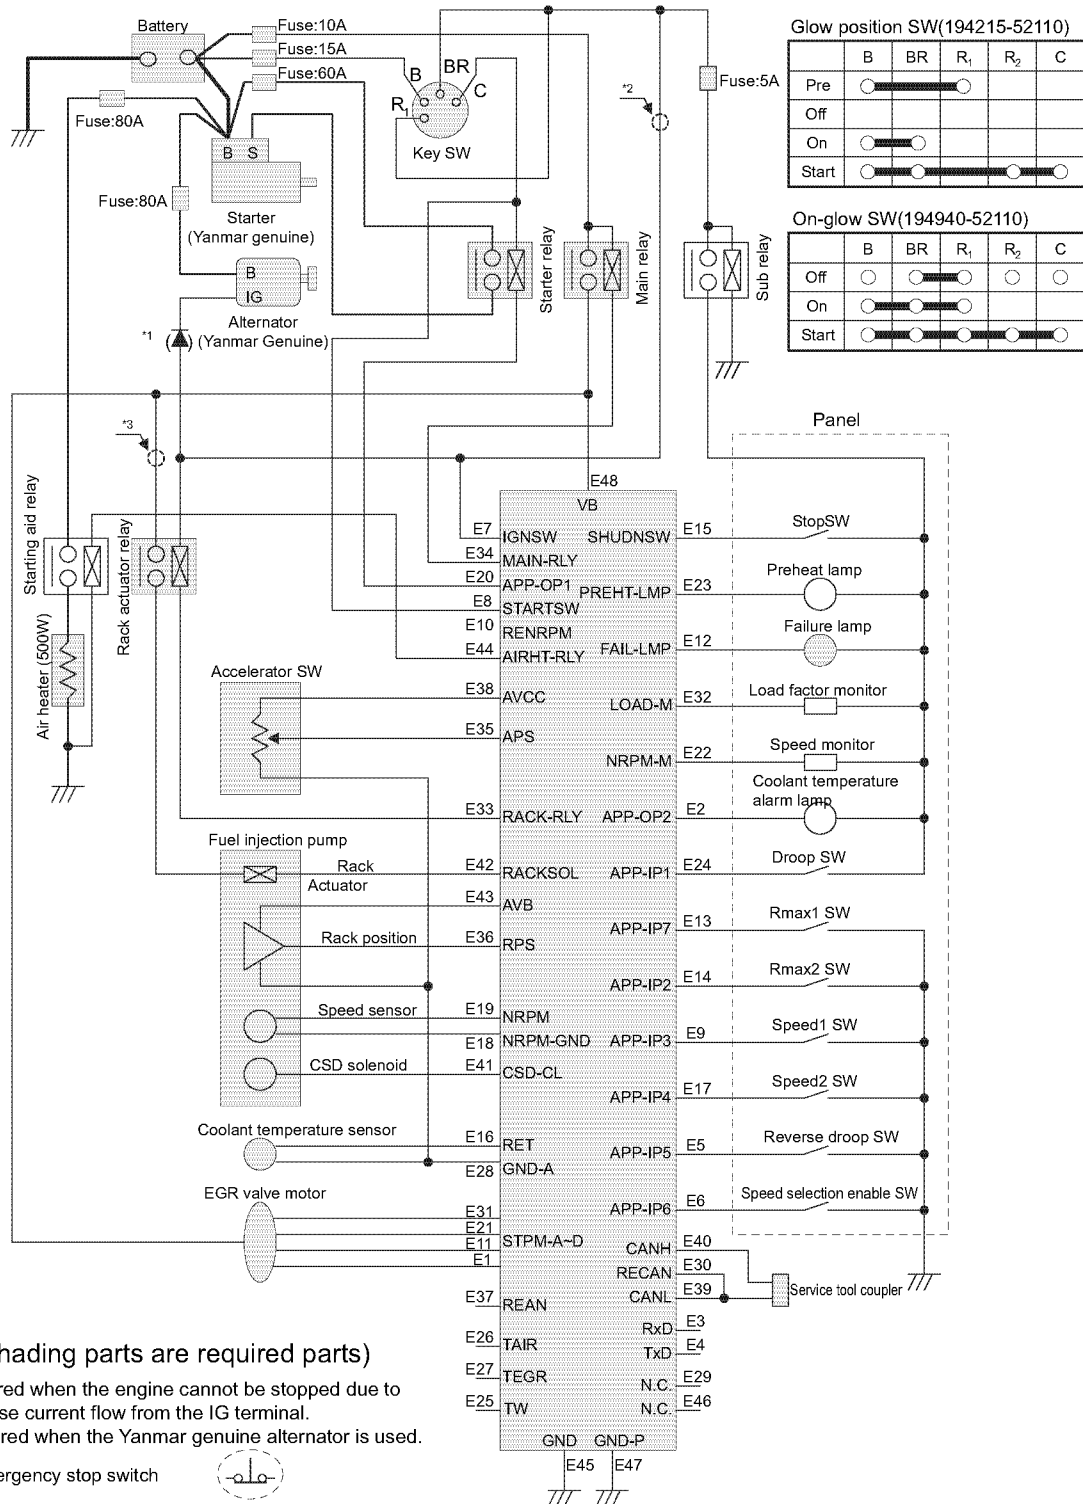
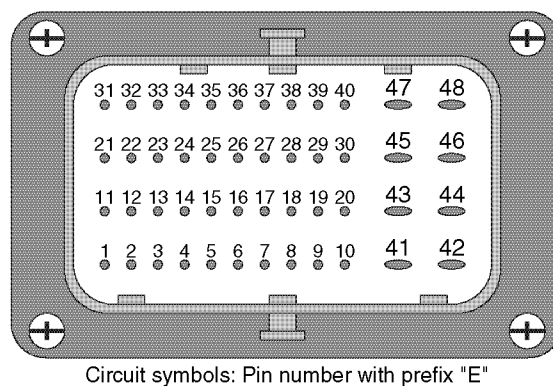

Fig. 14-4 The standard electrical connection diagram of the Eco-governor system
Fig. 14-8 E-ECU connector pin No.
Fig. 14-4 shows the standard electrical connection diagram of the Gen2 Eco-governor.
The following describes each of the components shown in Fig. 14-4
(8) Accelerator sensor
(9) Coolant temperature sensor
(10) Panel switches and lamps
(11) About a diode to be inserted in alternator terminal IG
- The engine may be impossible to stop because the current generated by the alternator flows reversely from alternator terminal IG to the harness circuit. To avoid such a trouble, you should separate alternator terminal IG from the rack actuator excitation circuit or insert a diode (marked with an asterisk in **Fig. 14-4**) into alternator terminal IG in order to prevent reverse current from the terminal.
Fig. 14-8 shown the connector pin numbers of the E-ECU. Note that the connection diagram in **Fig. 14-4** uses the pin numbers with a prefix of "E" as circuit symbols.